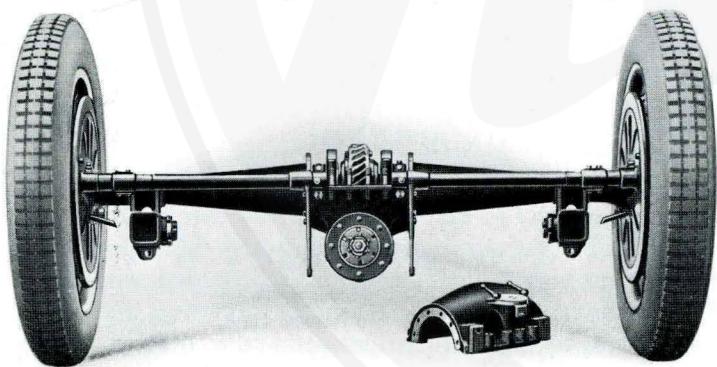

Fig. 13. Rear Axle.
*The Rear Axle* Fig. 13 is substantially a replica of the 40 h.p. on a reduced scale, consisting of three principal components, the centre gear box containing the worm gear (which is of the well-known Lanchester silent high efficiency type) and differential, and the two sides consisting of axle casings carrying the spring brackets and brake brackets, etc. The standard ratio of Worm Gear is 7-34, i.e., 4.86 : 1.